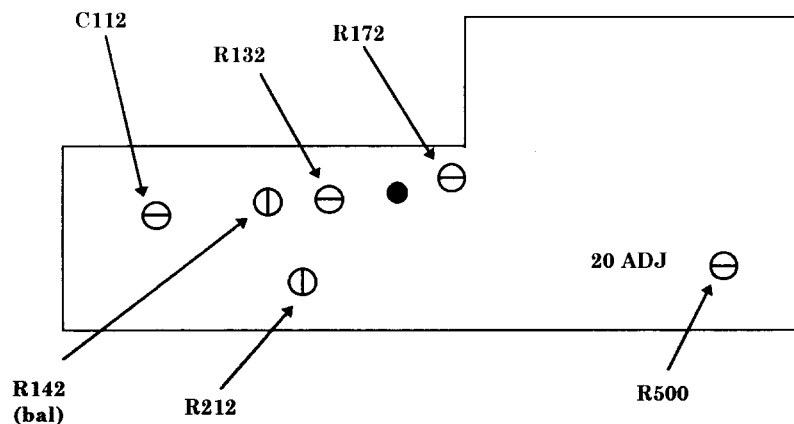
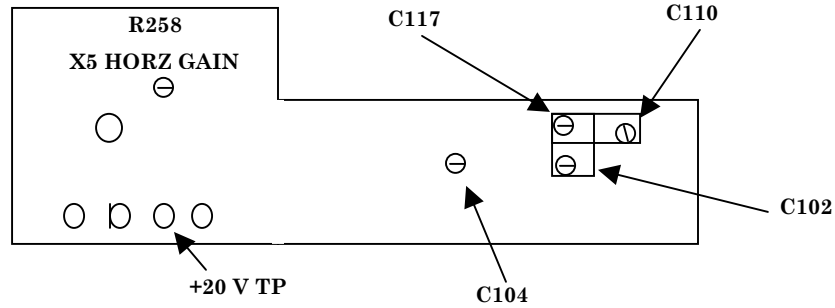

Figure 1. Oscilloscope - right side.
Figure 2. Oscilloscope – left side view.
- (2) **VARIABLE** (vertical) control fully cw (**X1**).
- (3) **VARIABLE** (time base) fully cw (**X1**).
- (4) **LEVEL/SLOPE** to **AUTO** (centered and pulled out).
- (5) **TRIGGER** switch to **INT**.
- (6) **mS** pushbutton pressed to in position.
- (7) All other pushbuttons released to out position.
- g. Rotate vertical **VARIABLE** control from **X1** to **X10** and note position of trace on crt. Return vertical **VARIABLE** control to **X1** position. If trace shifts more than 0.5 minor division, adjust R142 (bal) (fig. 1) for less than 0.5 minor division of shift when the vertical **VARIABLE** control is adjusted from **X10** to **X1**.
- (1) Adjust C117 (fig. 2) for optimum square wave (flat top and square corners).
- (2) Adjust C104 and C102 (fig. 2) for optimum flat top and square front corners.
- (3) Adjust C112 (fig. 1) and C110 (fig. 2) for optimum flat top and square corners.
- (1) Rotate oscilloscope calibrator **EDIT FIELD** knob for an **err** display of **0.0%**. Adjust R172 (fig. 1) for 5 divisions of vertical deflection (R).
(2) Rotate oscilloscope calibrator **EDIT FIELD** knob for an **err** display of **0.0%**. Adjust R132 (fig. 1) for 5 divisions of vertical deflection (R).
(1) Rotate oscilloscope calibrator **EDIT FIELD** knob for an **err** display of **0.0%**. Adjust R212 (fig. 1) until TI displays 1 time marker per division over center 8 divisions (R).
(2) Rotate oscilloscope calibrator **EDIT FIELD** knob for an **err** display of **0.0%**. Adjust R258 X5 **HORIZ GAIN** (fig. 2) until TI displays 1 time marker per division over center 8 divisions (R).
**a. Performance Check.** Connect digital multimeter to +20 V TP (fig. 2) and chassis ground. If digital multimeter does not indicate between 19.9 and 20.1 V dc, perform **b** below.
**b. Adjustments.** Adjust R500 (fig. 1) until digital multimeter indicates +20 V dc (R).